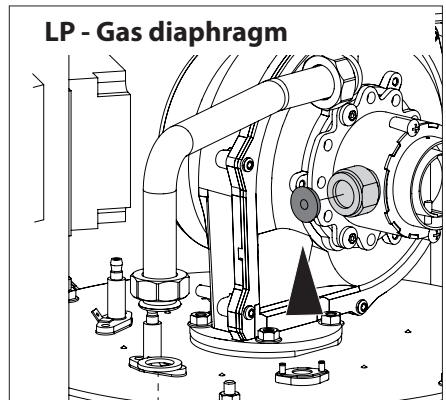

Figure 4 - Insert the LP-diaphragm
**NOTICE:** 150/150C NG-MIXERS ARE EQUIPPED WITH AN NG DIAPHRAGM LOCATED ON THE MIXER GAS LINE INLET (SEE FIGURE 4 FOR GENERAL DIAPHRAGM LOCATION).